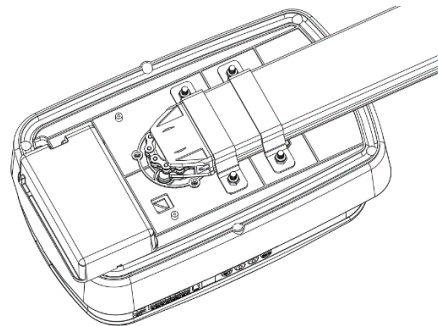

Figure 14
STEP2 (Fig.14)
Join the battery to opener, find the Fig.14